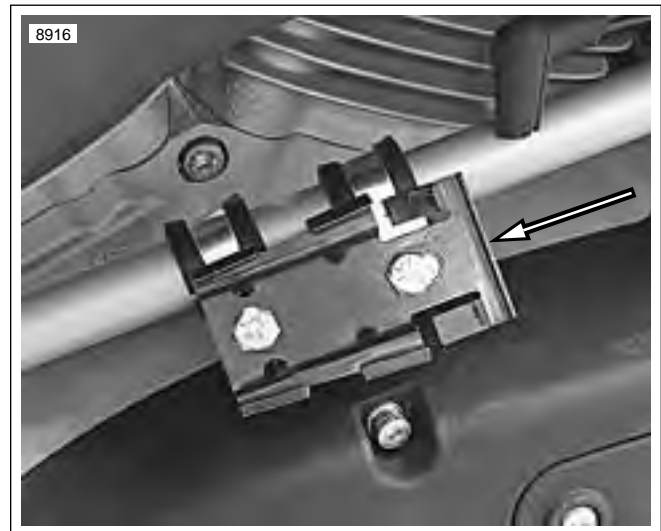

Figure 4-122. Canister Mounting Bracket
1. See Figure 4-122. Slide canister into position on canister mounting plate and push towards front of vehicle.